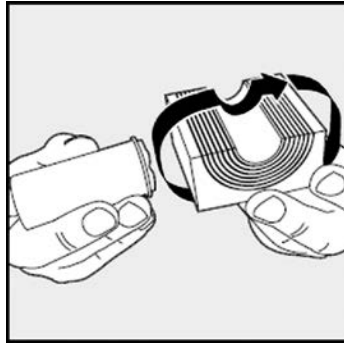

Figure 10-5. Greasing a Roxtec Module
- Roxtec grease, used to assemble and seal the modules (Figure 10-5).